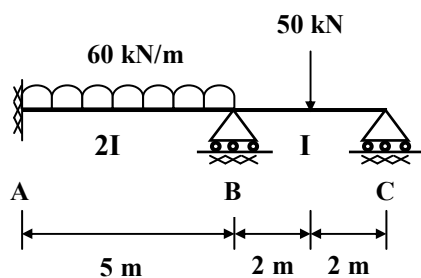

FIGURE- 5 Q-4 (a)
Q.4 (a) Analyze the continuous beam as shown in *figure-5* and draw SFD and BMD for the same. Take EI constant. **07**